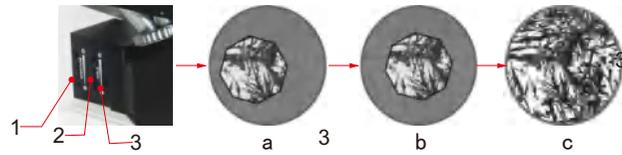

Fig.4
3. Check the position state of analyzer pole 1. Push the pole into optical path, as show the remark "□○". Check the position state of polarizer 2. Push the polarizer into optical, as show the remark "○". As shown in Fig.4.